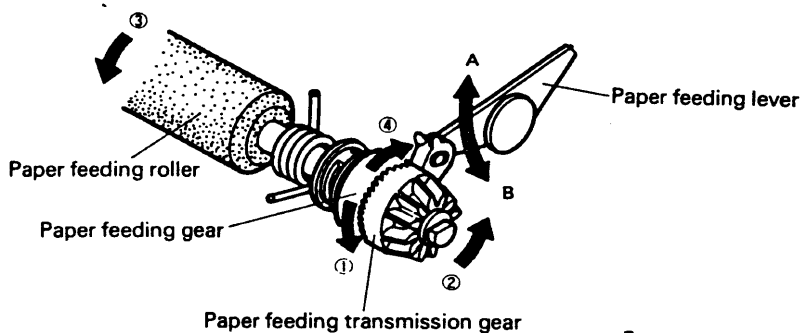
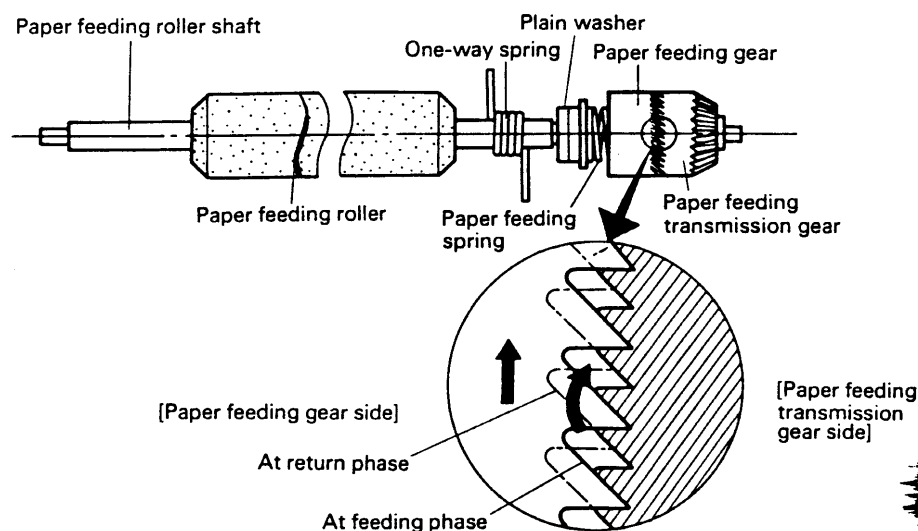

Fig. 1.13
Fig. 1.14 Return Phase
1 Paper feeding phase (refer to Fig. 1.13):
Referring to Fig. 1.13, the paper feeding gear rotates in direction ④ when the paper feeding lever moves in direction B. At this moment, the paper feeding transmission gear is prevented from rotating by the one-way spring placed on the paper feeding roller shaft and it goes out of mesh with the paper feeding gear (see Fig. 1.14). Consequently the paper feeding gear alone rotates in the reverse direction and thus returns to the initial position.